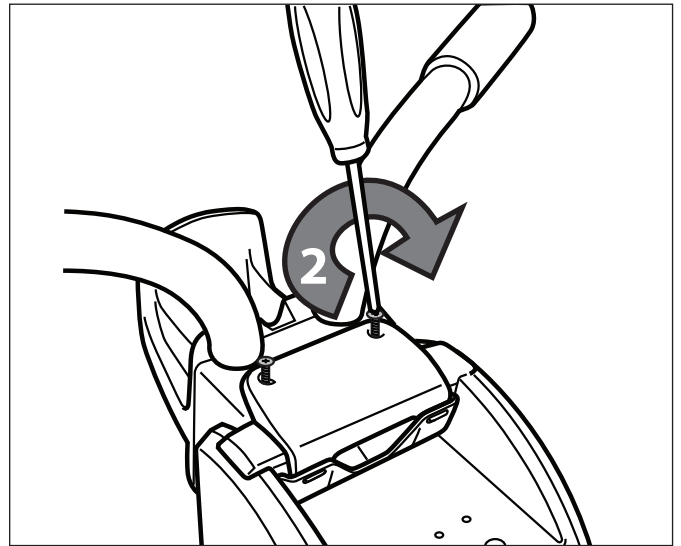

Figure 14. Secure the Locking Plate
- Secure the locking plate using Phillips head screws. Do not overtighten. Refer to Figure 14.